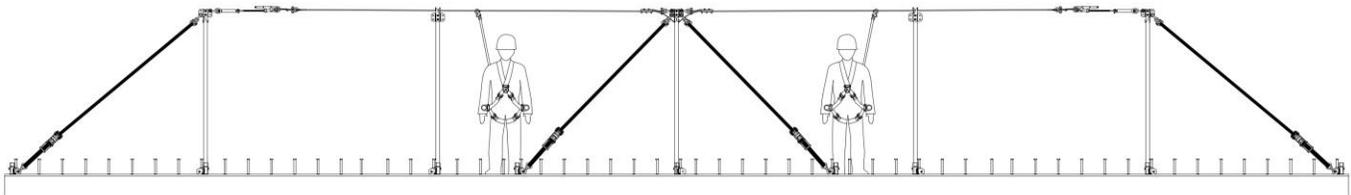

Fig. 16 Typical Layout of a Multiple Lifeline System
The above procedure describes the method for installing a single horizontal lifeline. It is also possible to install a continuous run of multiple horizontal lifelines that share common end stanchions provided they are installed in a generally straight line with one another (see Figure 16). For end stanchions located in the center of the lifeline run (where a lifeline will be attached on both sides of the stanchion), the horizontal lifelines should be attached to the top holes of the end stanchion. A single tie-back strap is then attached to the bottom hole of the stanchion. These tie-back straps are secured to the Shear/Rebar Studs in the same manner as outlined above, making sure that the bracket is both properly sized for the stud that it will attach to and that it is attaching to a Shear/Rebar Stud that allows for the correct minimum distance between the Modular Stud Stanchion Bracket and the Tie-back Bracket as appropriate for the height of stanchion being used (60-in. minimum spacing for a 5-ft. tall stanchion, 72-in. for a 6-ft. stanchion, and 84-in. for a 7-ft. stanchion). These tie-back straps should be evenly tensioned to ensure that the stanchion is kept vertical. Only an end stanchion that has a horizontal lifeline attached to both sides is allowed to have a single tie-back. Should one of the lifelines be removed from one of these central lifelines, a second tie-back must immediately be attached to the stanchion on the side opposite the lifeline BEFORE the lifeline may be used. Please contact Reliance Engineering at (303) 424-8650 with any questions concerning the arrangement or installation of horizontal lifeline equipment.